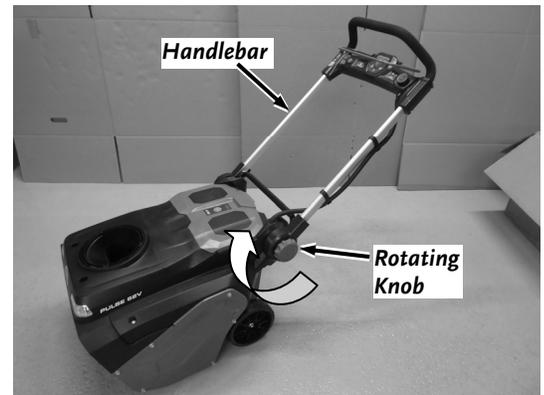

Figure 5
3. Secure the Handlebar into position by turning the Rotating Knob in the clockwise direction (**Figure 5**).